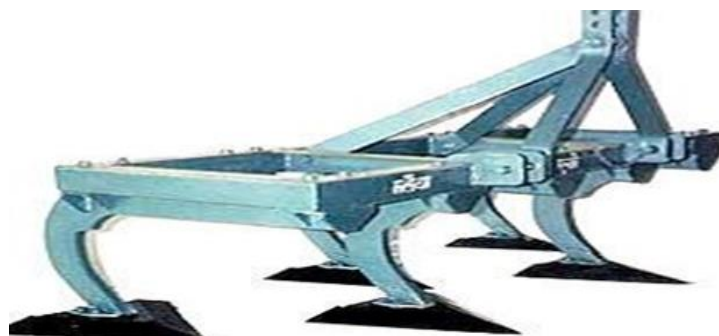

Fig.3.23: Duck Foot Cultivator
3. Duck Foot Cultivator: The duck foot cultivator (Fig.3.23) is a type of rigid cultivator. It consists of a box-type steel rectangular frame, rigid tines, and sweeps. The sweeps are triangular similar to the foot of the duck hence it is called duck foot cultivator. The sweeps are made from high carbon steel and joined to tines with fasteners, which makes them replaceable after being worn out or becoming dull. The tines are made of mild steel and are flat and forged in shape. According to requirement, the number of sweeps can be reduced. The depth of operation is controlled by the hydraulic system of the tractor. This cultivator is popular in black cotton soils. It is mostly used for primary tillage operation for shallow ploughing where as in hard soils, for destruction of weeds, and the retention of soil moisture.